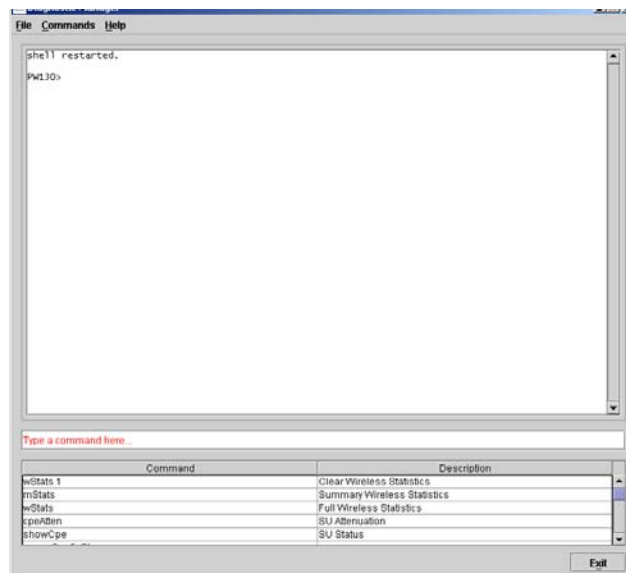

Figure C-2 *Diagnostic Manager*
4. The Diagnostic Manager will open as shown in *Figure C-2*. The Diagnostic Manager includes numerous diagnostic functions which can be initiated from the main menu bar or from the command list area at the bottom of the window.